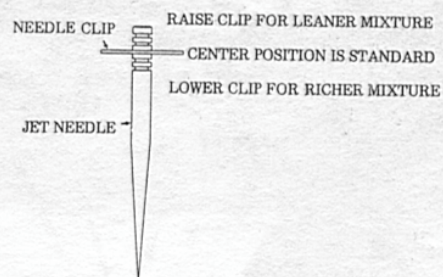

Fig. 36
2. Remove the needle jet from the throttle valve and move the clip down for a richer mixture or up for leaner. (Figure 36)